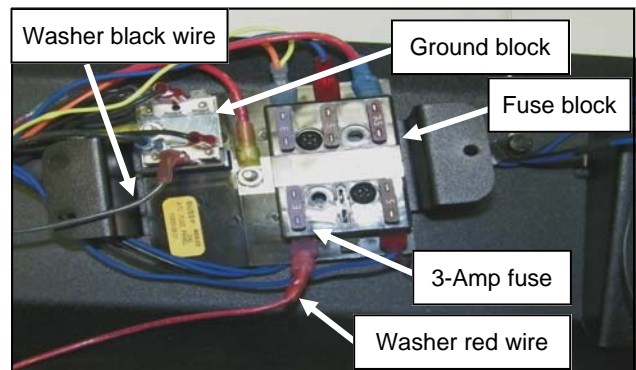

Fig. 3.3
- 3.3 Remove and retain the three #10-32 screws and nuts holding the fuse block bracket to the console panel. Connect the push-on terminals of the Washer harness to the fuse block terminals as shown. Connect the black wire to any terminal of the ground block, and the red wire to the fuse terminal indicated. See Figure 3.3.